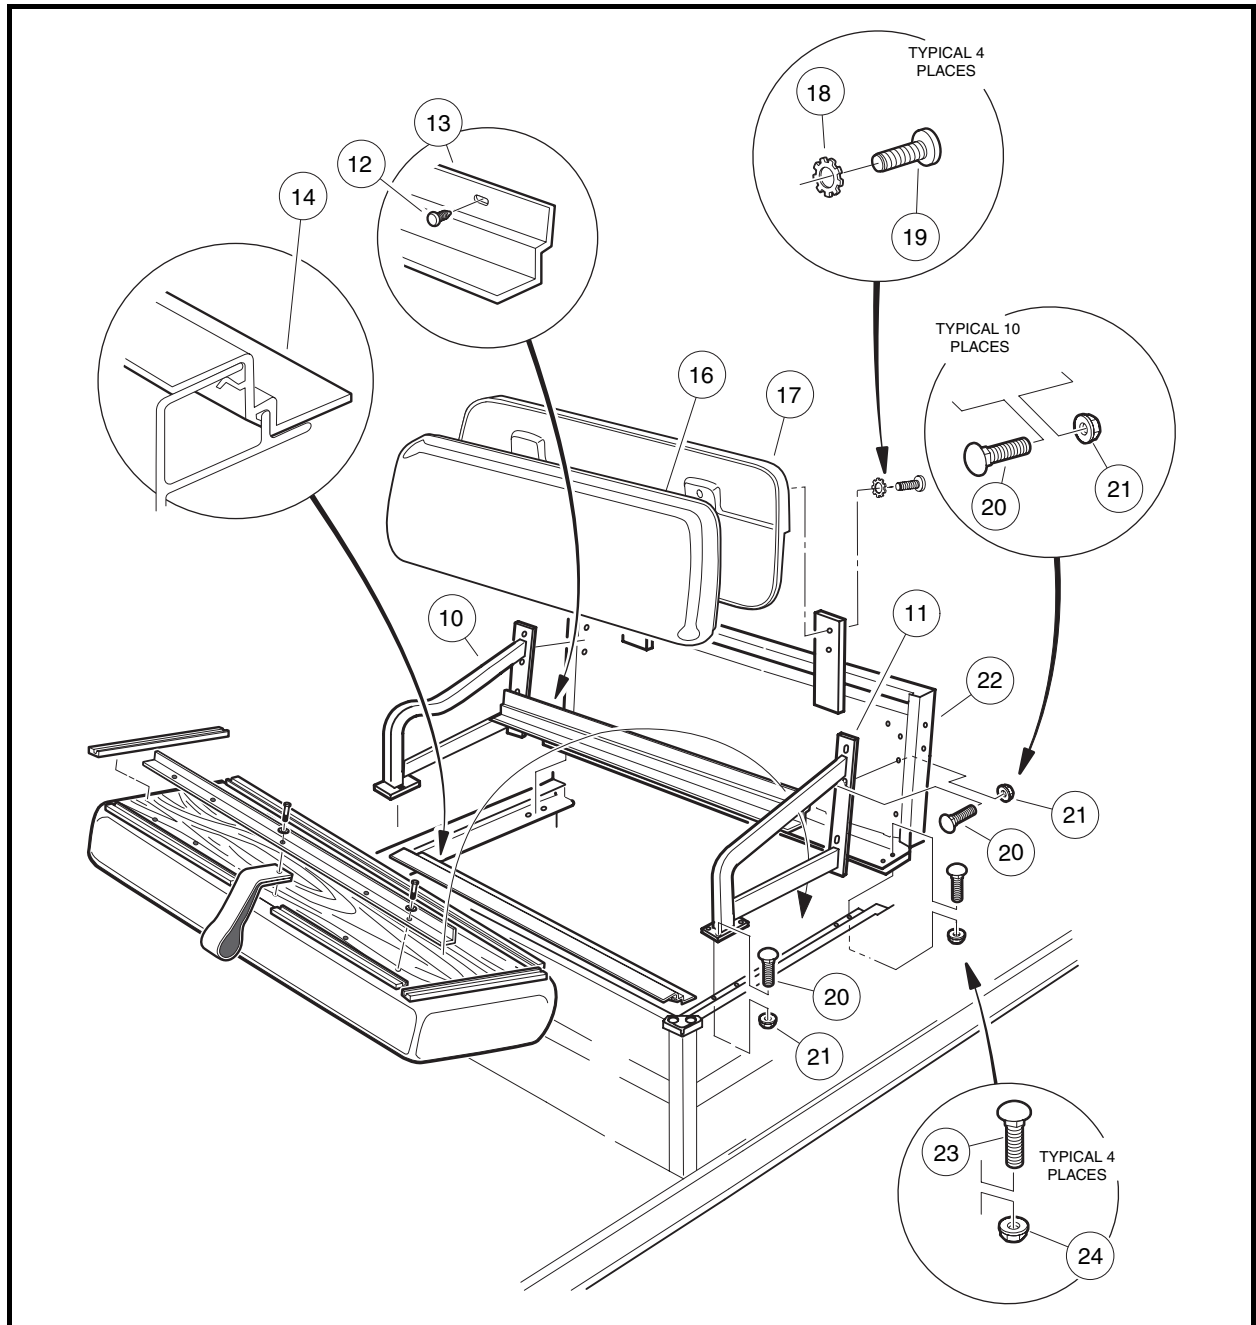

Figure 4-4 Carryall 472/XRT 1200SE Rear Seat Support
2. Remove eight 1/4-20 flange nuts (21) and eight 1/4-20 x 3/4-inch carriage bolts (20) and remove arm rests (10 and 11) (**Figure 4-4, Page 4-8**).
3. Remove four 1/4-20 x 1 inch, phillips drive, truss-head machine screws (19) and lockwashers (18) from seat back support (22) and remove seat back (16) and seat back cap (17).
4. Remove four 5/16-18 flange locknuts (24) and four 5/16-18 x 3/4-inch carriage bolts (23) and remove seat back support (22).
5. Remove seat bottom rear trim (13) by pushing-out, from the back of the seat back support (22), five plastic barrel connectors (12).
6. Remove the seat bottom front trim (14) by lifting the lower inside flange slightly across the entire seat area. Push the trim toward the rear of the vehicle, allowing the top flange to slide away from the seat frame toward the rear of the vehicle.